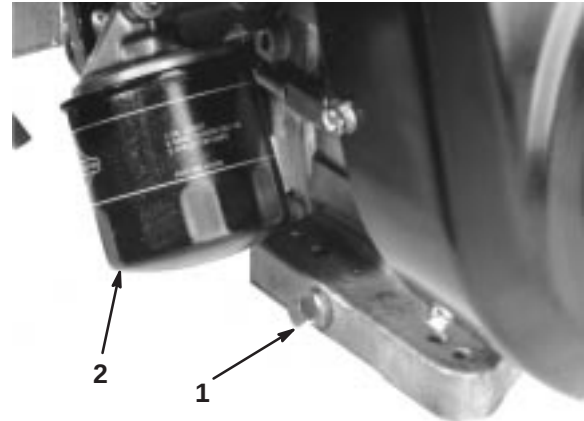

Figure 35
1. Remove the drain plug (Fig. 35) and let oil flow into a drain pan. When the oil stops, install the drain plug.
2. Remove the oil filter (Fig. 35). Apply a light coat of clean oil to the new filter gasket.